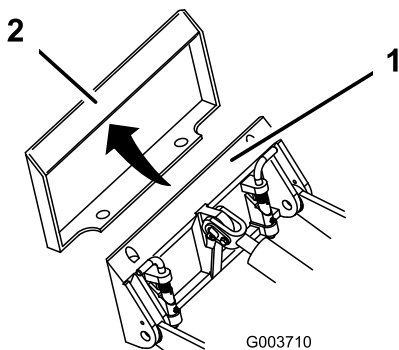

Figure 18
4. Position mount plate into the upper lip of the attachment receiver plate (Figure 18).